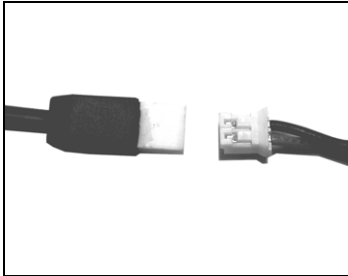

Fig. 14
- Hook up the battery cable (Red+Black) to the connector located on the wiring system (Fig. 14).